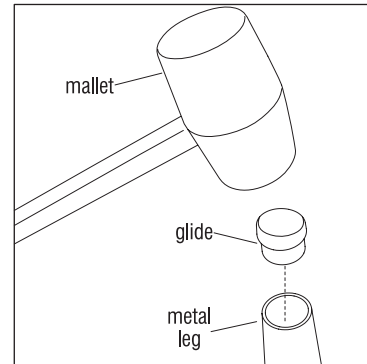

Figure 2 - Press-In Glide
3. Once glide is removed, press in the new replacement glide and lightly tap in with a rubber mallet (Figure 2).